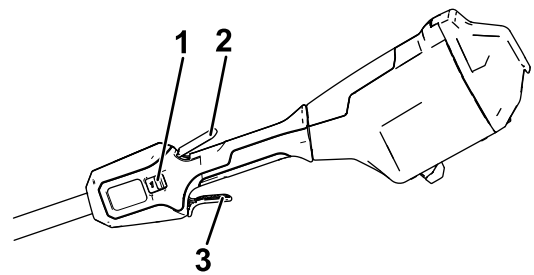

Figure 10
5. To start the machine, squeeze the lockout trigger, then squeeze the run trigger (Figure 10).